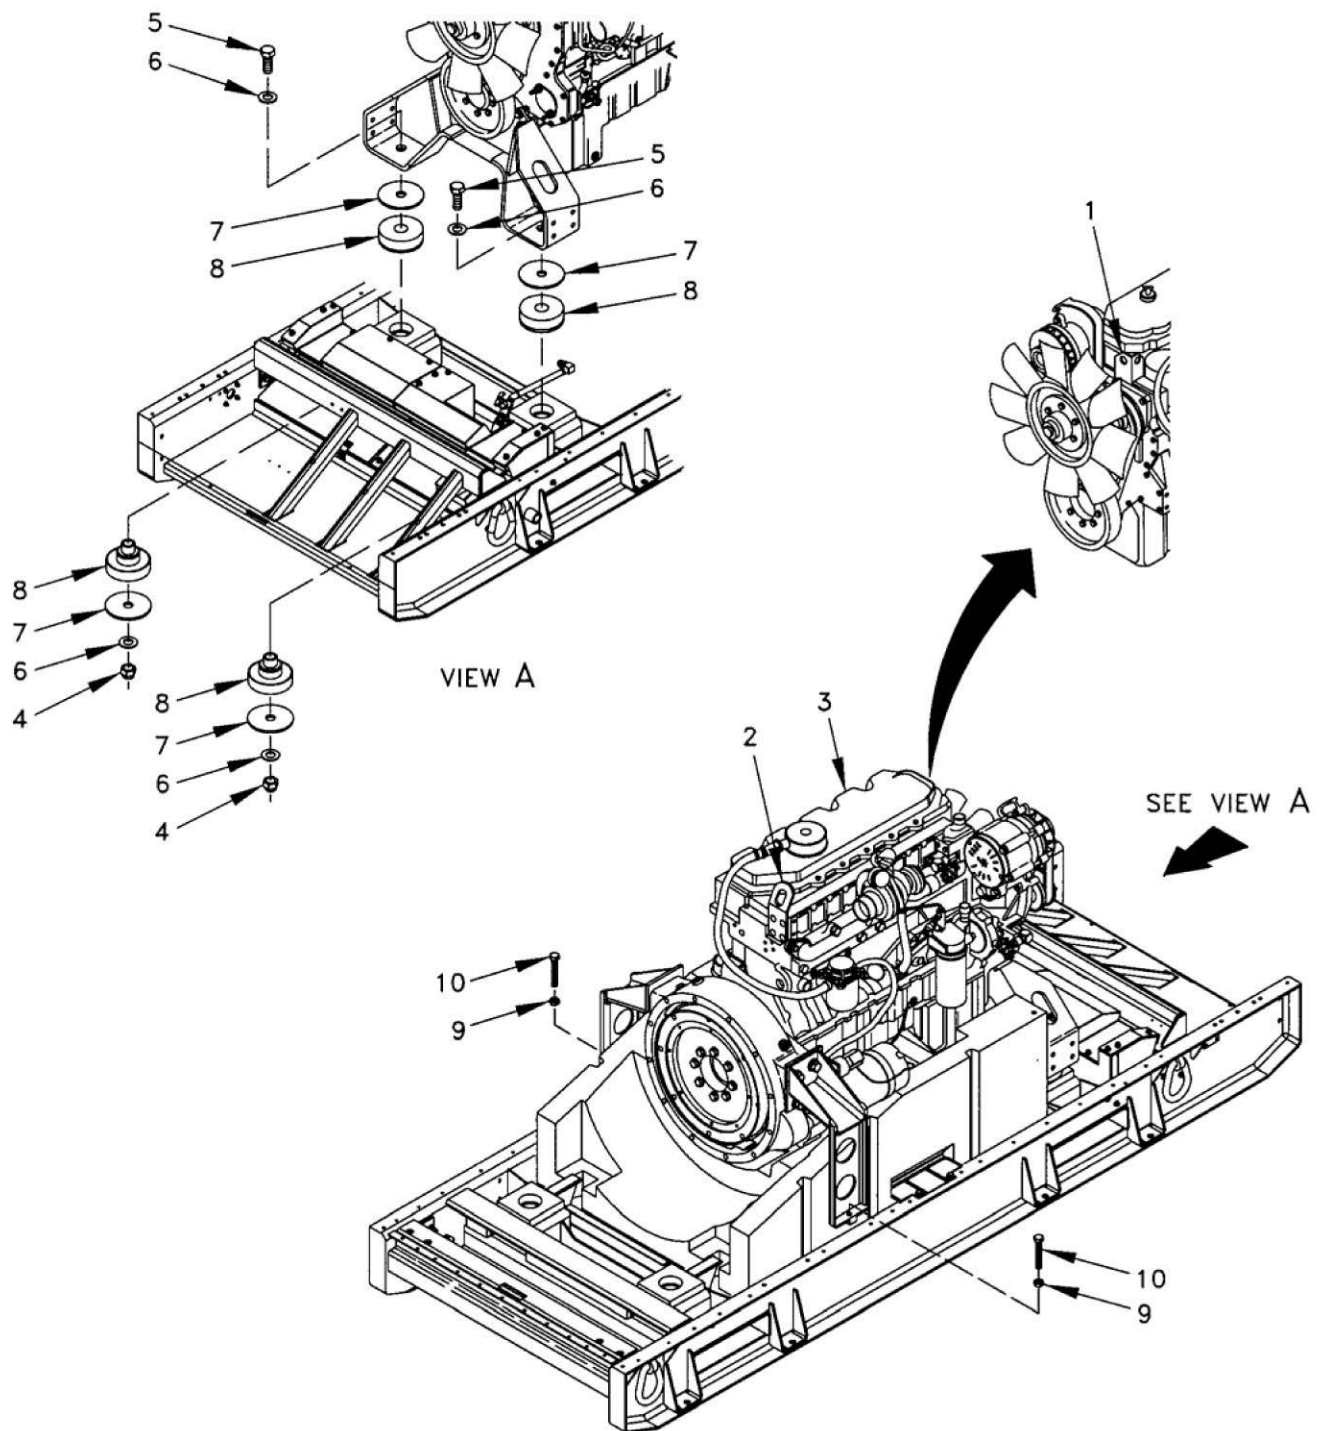

Figure 1. Engine Replacement.
1. Attach suitable lifting device with at least 2,000 lb (907 kg) capacity to front lifting bracket (Figure 1, Item 1) and rear lifting bracket (Figure 1, Item 2) on engine (Figure 1, Item 3) and take slack out of lifting device.
12. Remove two locknuts (Figure 1, Item 4), two bolts (Figure 1, Item 5), four washers (Figure 1, Item 6), and two snubbing washers (Figure 1, Item 7) and bottom engine shock mounts (Figure 1, Item 8).
13. Loosen two nuts (Figure 1, Item 9) and snug down two jackscrews (Figure 1, Item 10). Re-tighten two nuts.
16. Carefully lift engine (Figure 1, Item 3) off engine generator base.
17. Remove two top snubbing washers (Figure 1, Item 7) and two top engine shock mounts (Figure 1, Item 8).
1. Install two top engine shock mounts (Figure 1, Item 8) and snubbing washers (Figure 1, Item 7).
2. Using a suitable lifting device with at least 2,000 lb (907 kg) capacity, connected to front lifting bracket (Figure 1, Item 1) and rear lifting bracket (Figure 1, Item 2), carefully lower engine (Figure 1, Item 3) onto engine generator base and top engine shock mounts assemblies. Align flywheel to generator.
3. Install two bottom engine shock mounts (Figure 1, item 8), snubbing washers (Figure 1, Item 7), four washers (Figure 1, Item 6), two bolts (Figure 1, Item 5), and two locknuts (Figure 1, Item 4). Torque bolts (Figure 1, Item 5) to 216-264 lb•ft (293-357 N•m).
6. Loosen two jackscrews (Figure 1, Item 10) and two nuts (Figure 1, Item 9). Draw-up bolts and tighten nuts.